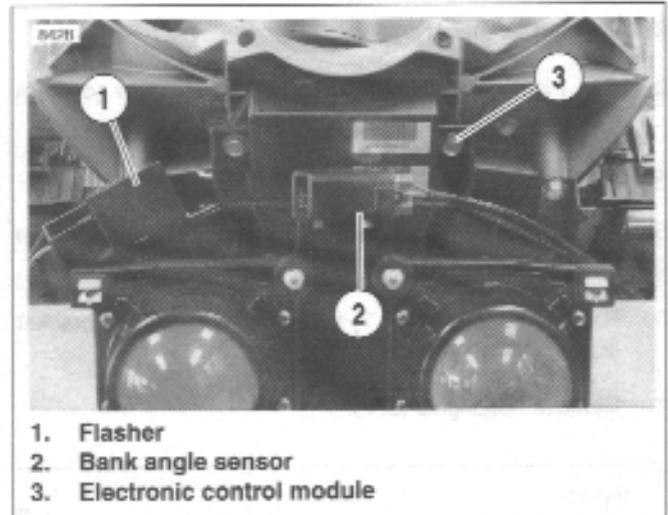

Figure 2-91. Headlight Support Bracket
4. See Figure 2-91. Disconnect flasher (1) and bank angle sensor (2). Remove electronic control module fasteners (3).
7. See Figure 2-91. Install electric control module.
- b. Tighten electronic control module fasteners (3) to 72-96 in-lbs (8-11 Nm).
8. See Figure 2-91. Connect flasher (1) and bank angle sensor (2).